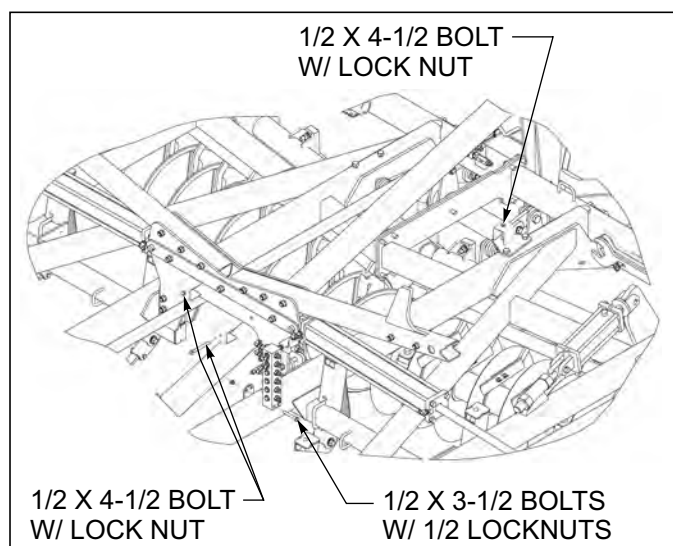

Figure 3-24: 8550 Front Manifold
1. Install the hydraulic manifolds at the center and rear of the center frame to the mounts welded to the frames using 1/2 x 3-1/2 bolts and lock nuts. Loosely install hose clamps as shown with 1/2 x 4-1/2 bolts and lock nuts (See Figures 3-24 & 3-25.) On the front manifold, the top two ports are folding, the middle two are for hydraulic gangs, and the bottom two are for the lift system.
5. Secure hoses into the (3) bolt on hose clamps. One is at the front of the center frame and the other two are on the back side of the front set of wing fold cylinder mounting plates (See Figure 3-24.)